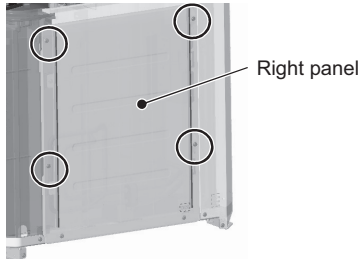

Figure 1
- (1) Remove the front heat exchanger. Refer to 8-12-8 Maintenance Procedures for the Heat Exchanger for details.
- (2) Remove the top, front, and right compressor covers. Refer to 8-12-4 Compressor Replacement Procedure for details.
- (3) Remove the duct from the control box. Refer to the control box replacement procedure for details.
- (4) Remove the right and inside (right) panels by unscrewing the eight screws. (Applicable only to the S-module. See Figures 1 and 2.)